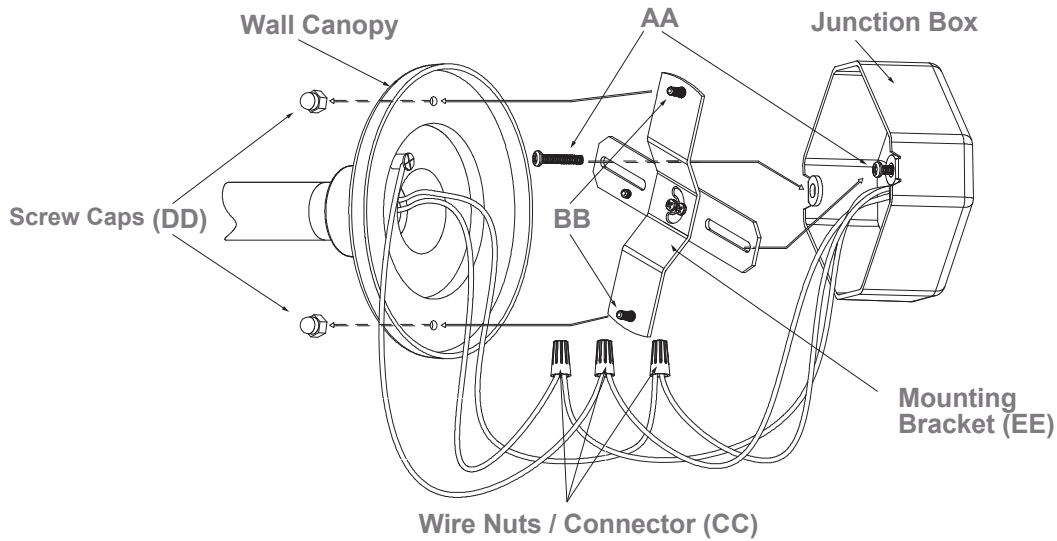

Figure 2
2. Pull the supply wire (Line, Neutral and Ground) out from the Junction Box in the wall through the large center hole in the Mounting Bracket (EE). (Figure 2)
3. Fasten the Screws (BB) to the Mounting Bracket (EE). Make sure the end of screw thread is towards the outside. Secure Mounting Bracket (EE) to the Junction Box using the Screws (AA). Fasten the screws in the center of Mounting Bracket (EE) (Figure 2)
4. Connect wires as shown in wiring diagram with wire nuts. Carefully tuck all wiring back into the Junction Box, making sure there are no exposed un-insulated wires. (Figure 2)
5. Fasten the Wall Canopy to the Mounting Bracket (EE) with Screw Caps (DD). Loosen the Set Screw to adjust the fixture in desired direction and fasten the Set Screw again. (Figure 2)